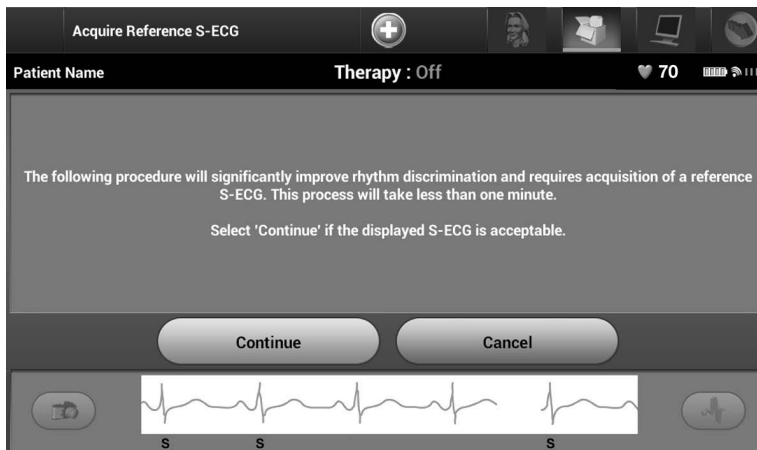

Figure 28: Acquire Reference S-ECG screen
8. Following the optional optimization process, the Acquire Reference S-ECG screen is displayed (Figure 28). Select the Continue button to acquire a reference S-ECG.